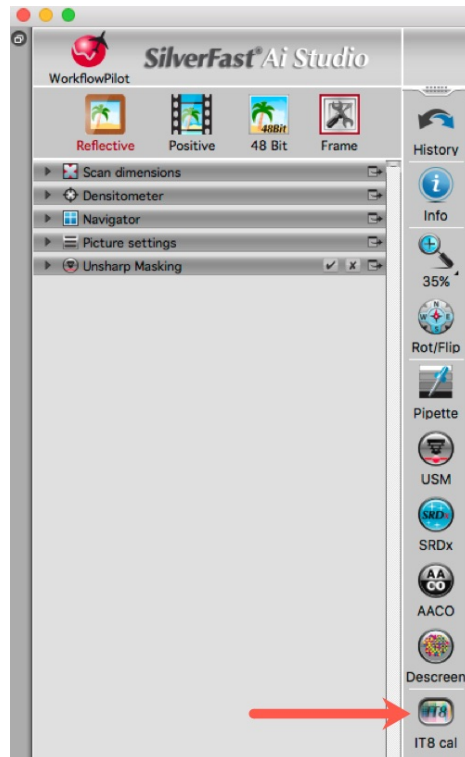

Figure 2. IT8 Calibration Command
5. Click on "IT8Cal" and "Advanced" (Figures 2 and 2A);